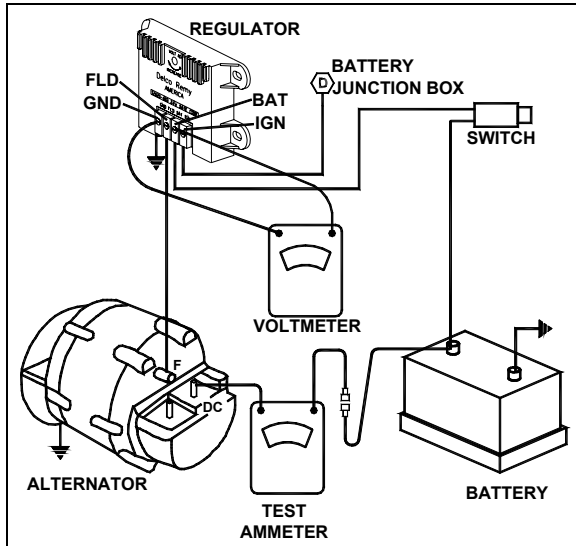

FIGURE 31: REGULATOR VOLTAGE TEST
1. To check the voltage setting, connect a voltmeter across the "POS" and "NEG" terminals on the regulator, and an ammeter to the "C" terminal on the alternator. Refer to Figure 31.